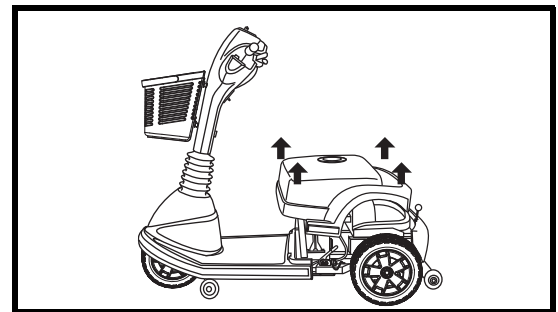

Figure 17. Rear Shroud Removal
3. Gently lift the rear shroud off of the scooter. See figure 17.